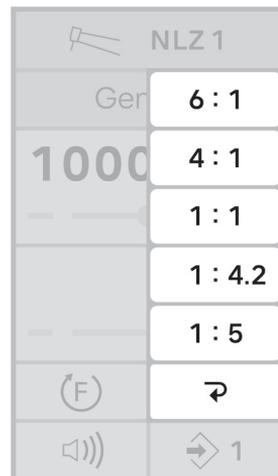

Figure 8.
2. Select the gear ratio of the handpiece to be used (Figure 8).